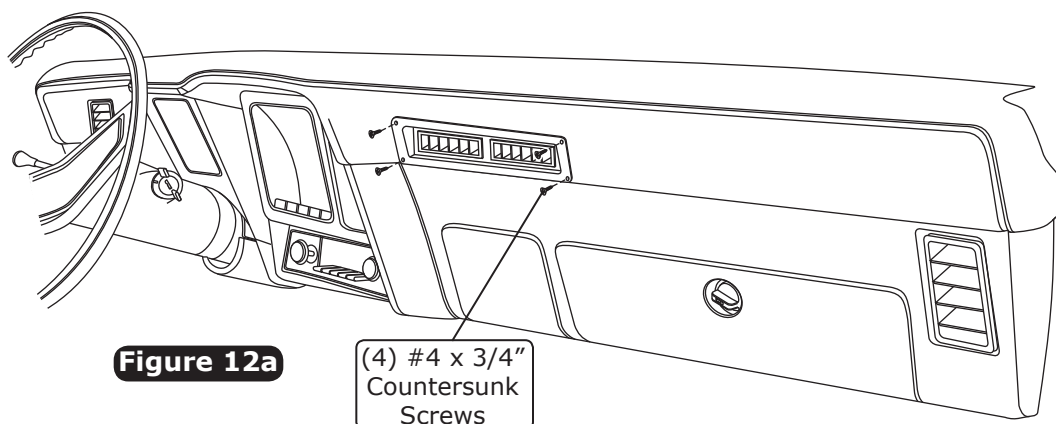

Figure 12a
2. Using (4) #4 x 3/4" countersunk screws, secure the center louver assembly to the dash as shown in Figure 12a, below.